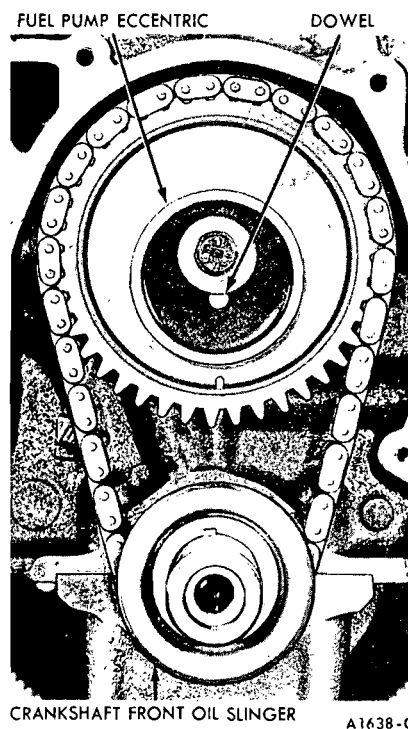

FIG. 41—Fuel Pump Eccentric and Front Oil Slinger Installed
2. Install the fuel pump eccentric, washers and camshaft sprocket cap screw. Torque the sprocket cap screw to specifications. Install the crankshaft front oil slinger (Fig. 41).